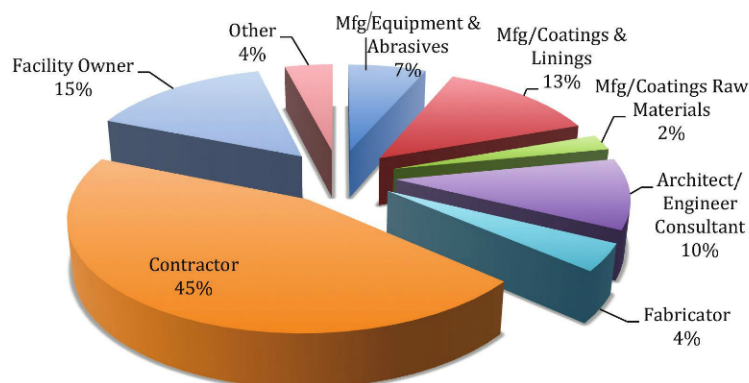

Fig. 2: Individual Membership Demographics.
During the reporting period, SSPC organizational membership (OM) increased to 961, an increase of 1.05 percent. Individual membership grew from 10,820 in December 2014 to 11,096 in December 2015, an increase of 2.5 percent. A breakdown of individual members' demographics is shown in Figure 2 (p. 57); however, it remains nearly the same as the previous year. After a slightly flat year in membership, SSPC hopes for additional growth in 2016.